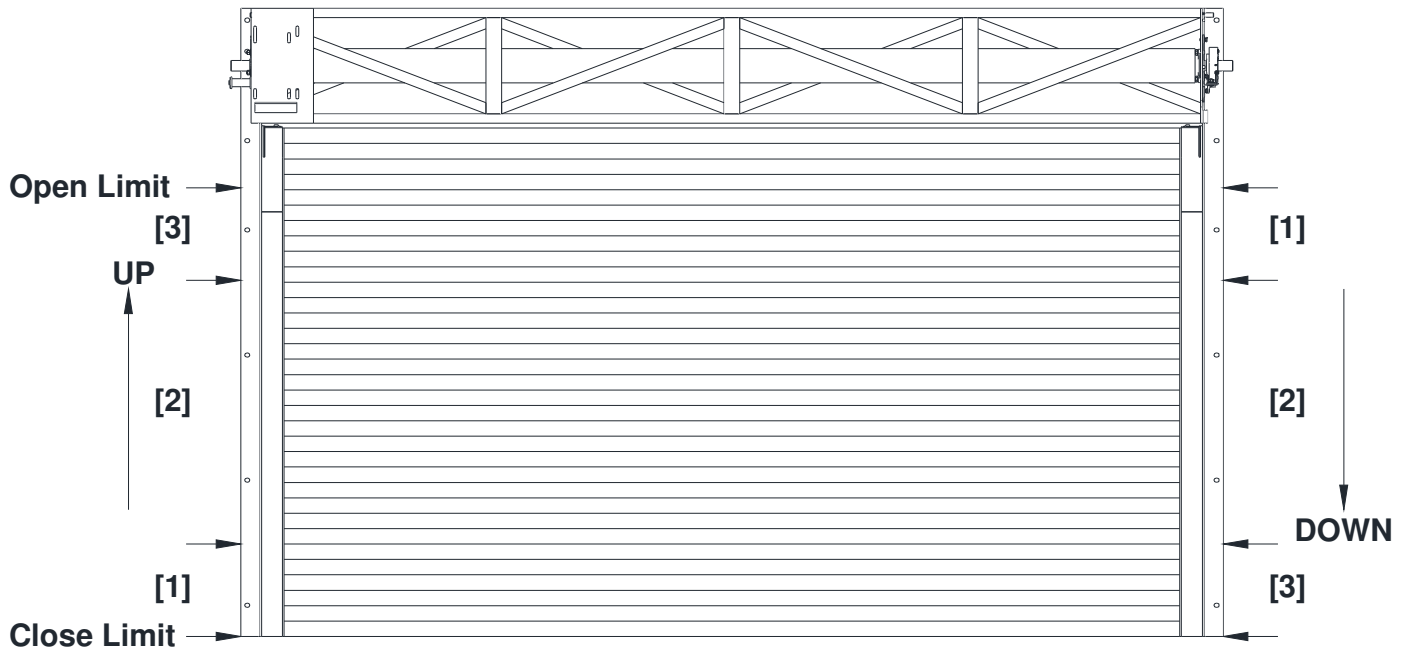

Figure 2 – Door Limits
8. **Adjusting Deceleration Limit Switches:** There should be 3 distinct stages of motor operation. See Figure 2